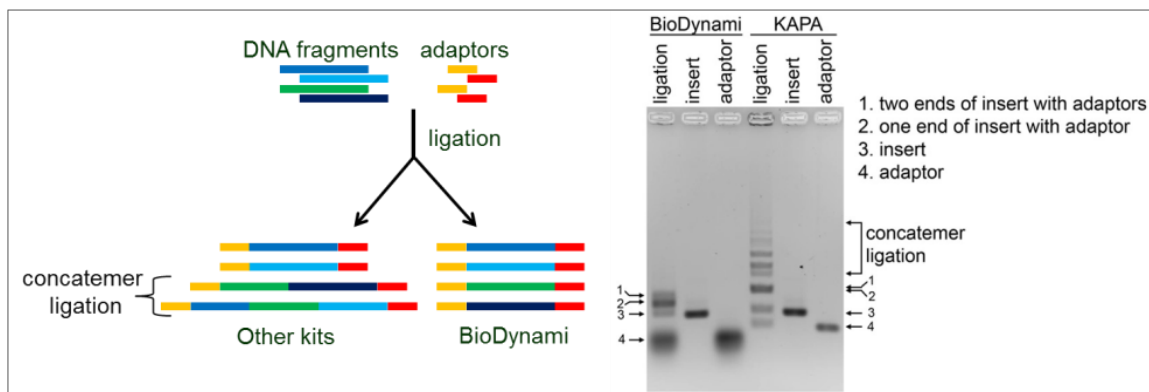

Fig. 4
- No insert concatemer ligation (Fig. 4)